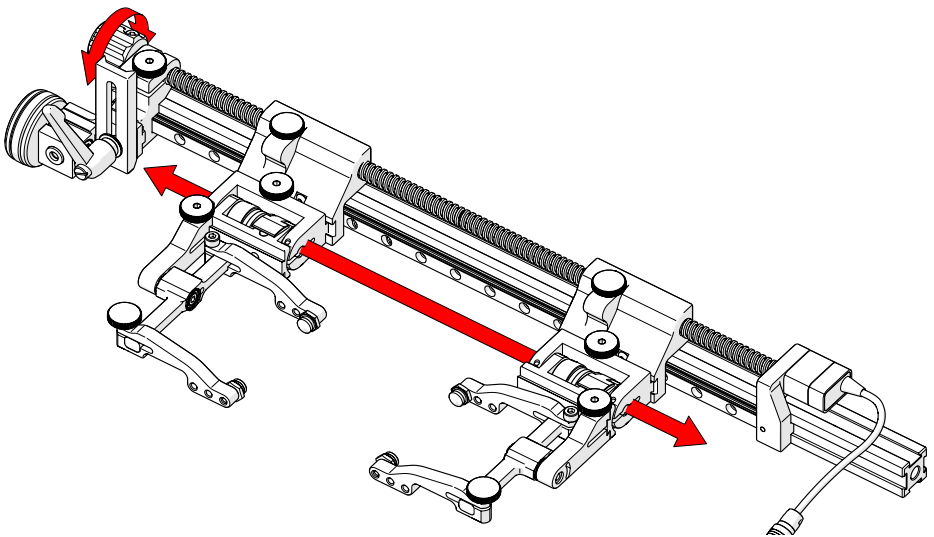
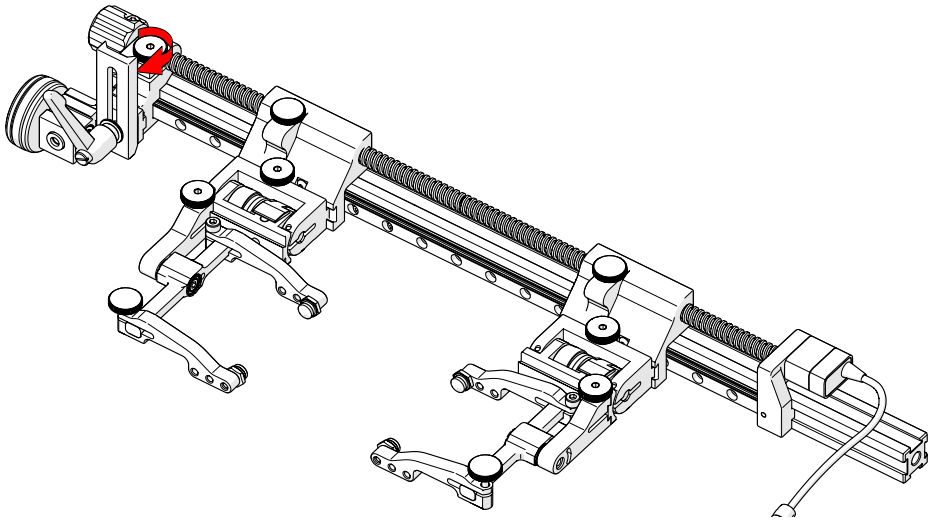

Fig. 156 - Adjustment knob
Fig. 157 - Position lock knob
4. Ensure the PPS lock knob (*Fig. 157*) is loose. Use the PPS adjustment knob to position both carriages simultaneously (*Fig. 156*).
5. The PPS lock knob prevents the leadscrew from movement once scanning is underway (Fig. 157).